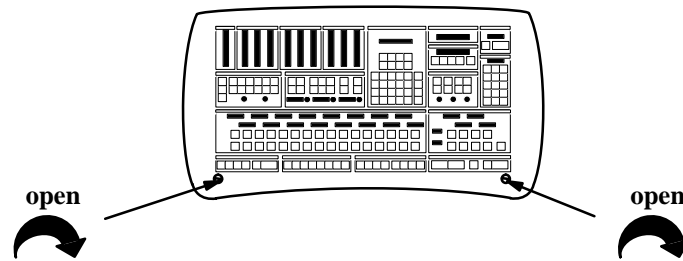

Figure 2-8. Turn screws clockwise to lift console top.
- (1) Lift up the console top (see Figure 2-8). With power off, locate MPK (Select) panel DIP switch package S1. This is an 8-position switch on the right-hand edge of the console.